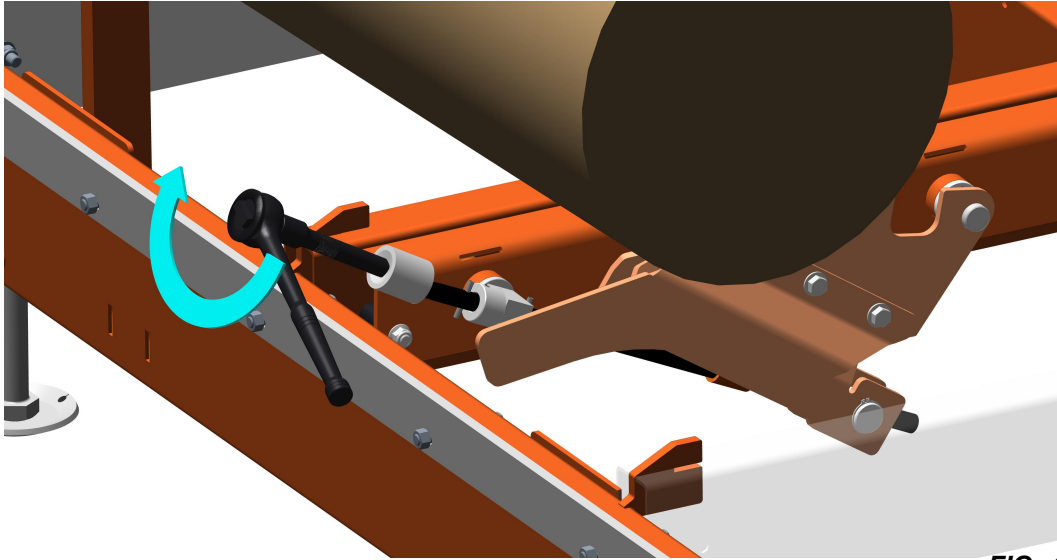

FIG. 4
2. Turn handle clockwise to raise end of log. **See FIG. 4**